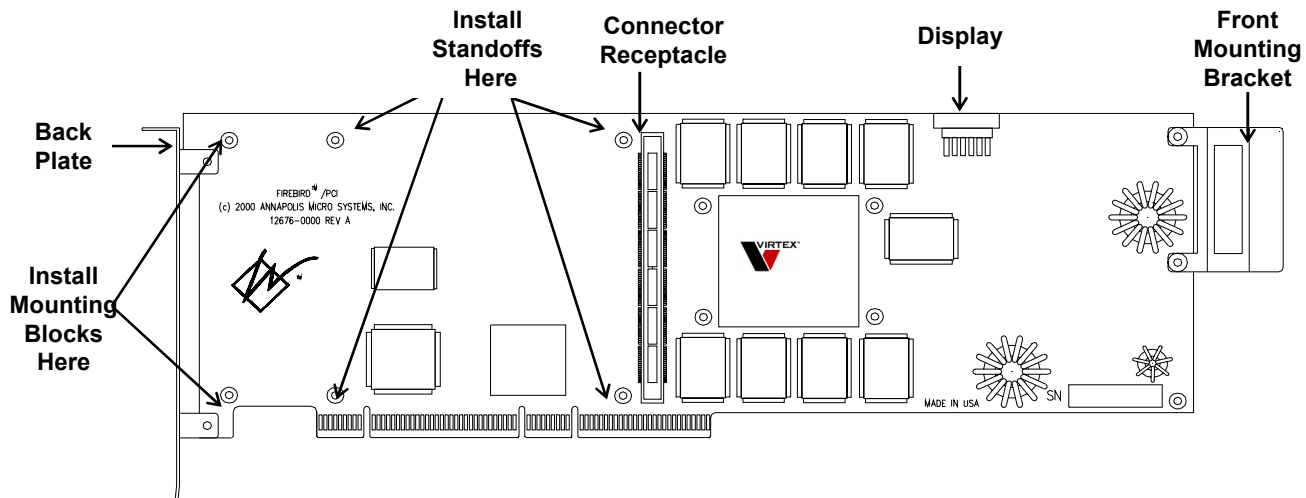

Figure 4-5: FIREBIRD™/PCI Board (Component Side)
8. Attach four standoffs (included with the card) to the component side of the FIREBIRD™/PCI motherboard by securing them with four 4mm hex screws (see Figure 4-5 for standoff locations). Screw them in from the solder side.
9. Attach two mounting blocks to the component side of the FIREBIRD™/PCI motherboard by securing them with two hex screws through the motherboard's solder side (see Figure 4-5).